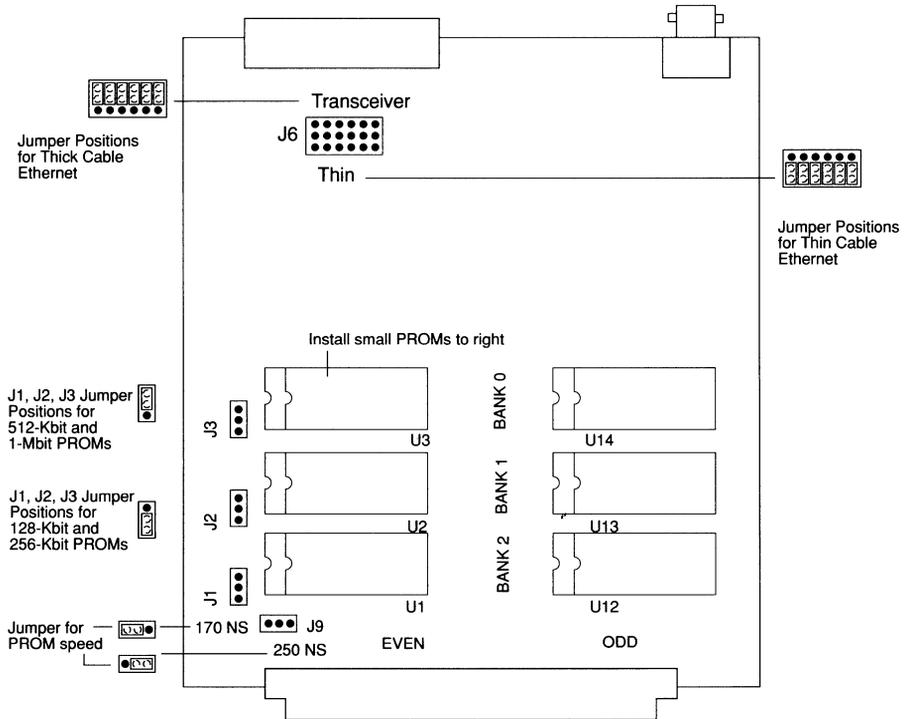

Figure 2-8. Ethernet Communications Module
There are ten jumpers on the Ethernet communications module. Six of these are for configuring the network interface, and the other four impact PROM size and speed. You do not need to change the jumpers unless you are using an external transceiver or are changing from a download to a PROM-based unit. See Figure 2-8 for the locations of the jumpers. The jumpers are described on the following pages.
Jumpers J1, J2, and J3 are used to indicate the size of the PROMs installed on the Ethernet communications module. Jumper J1 controls the BANK 2 sockets U1 and U12; J2 controls BANK 1 sockets U2 and U13; and jumper J3 controls the BANK 0 sockets U3 and U14. Setting the jumpers toward the bottom of the communications module (as viewed in Figure 2-8) sets them for 128-Kbit and 256-Kbit PROMs. Setting the jumpers toward the top of the communications module sets the jumpers for 512-Kbit and 1-Mbit PROMs. The top of the communications module is the end where the external connectors TRANSCEIVER and THIN are mounted. See Figure 2-8.
Jumper J9 is used to indicate the speed of the installed PROMs. See Figure 2-8 for the location of J9. The jumper is installed to the left for 170-ns PROMs, and to the right for 250-nsd PROMs (see Figure 2-8). PROMs may be mixed speeds of 170 and 250 nanoseconds. If any 250-ns PROMs are installed, the jumper must be set to the 250-ns position (to the speed of the slowest PROMs installed on the board).
2. Check the settings of the jumpers (refer to Figure 2-8).
3. If required for your installation, remove the jumpers and reinstall them in the correct configuration. Refer to Figure 2-8 for configuration settings.
PROMs are installed in pairs occupying the EVEN and ODD sockets (as shown in Figure 2-8) starting in BANK 0, then BANK 1, followed by BANK 2. A minimally-configured NCD16 must have two PROMs in BANK 0. The PROMs are labeled to correspond with the BANK 0, BANK 1, BANK 2, EVEN, and ODD legends. There are two differences in the types of PROMs:
- **Physical package size.** The 27128, 27256, and 27512 PROMs are smaller and have fewer pins than 271001 PROMs. The outlines of the PROM sizes are shown in Figure 2-8. Large PROMs occupy the complete outline, while small PROMs must be installed to the right following the smaller outline.